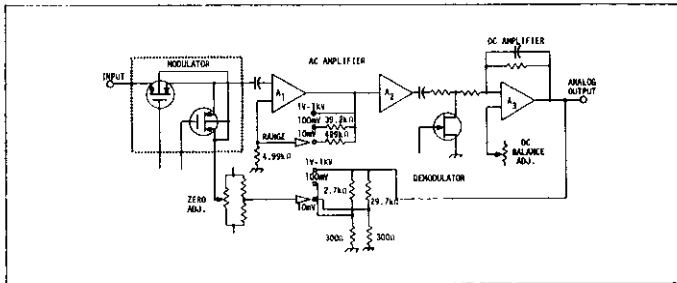

FIGURE 9. Analog Amplifier.
3-2. ANALOG AMPLIFIER. This circuit is composed of an input filter network, a modulator, an ac amplifier, a demodulator, and a final stage dc amplifier. Overall gain of the analog amplifier is set by resistors R520, R522, R523, R524, R525, R540 on the 10 mV and 100 mV ranges. For all other ranges, the analog amplifier is set for unity gain. See Figure 9 and Table 3-1.
c. AC Amplifier. Transistors Q503, Q504 form a differential amplifier with high input impedance. Integrated circuit QA501 and Q503, Q504 are connected as a variable-gain differential amplifier. Three gain settings are used for the 10 mV, 100 mV, 1V and higher ranges. The open-loop gain of the analog amplifier is varied so as to maintain a constant gain-bandwidth product. The gain of the first stage is $R_{F2} + R_2 / R_2$ as shown in Table 3-2. See Figure 9.
e. DC Amplifier. Integrated circuit QA503 is connected as a high-gain inverting amplifier. The dc gain is set by resistors R508 and R511 where $G = R508 / R511 = 10^4$. Potentiometer R526 is an internal offset adjust. Capacitor C507 provides filtering of the chopper frequency noise. See Figure 9.